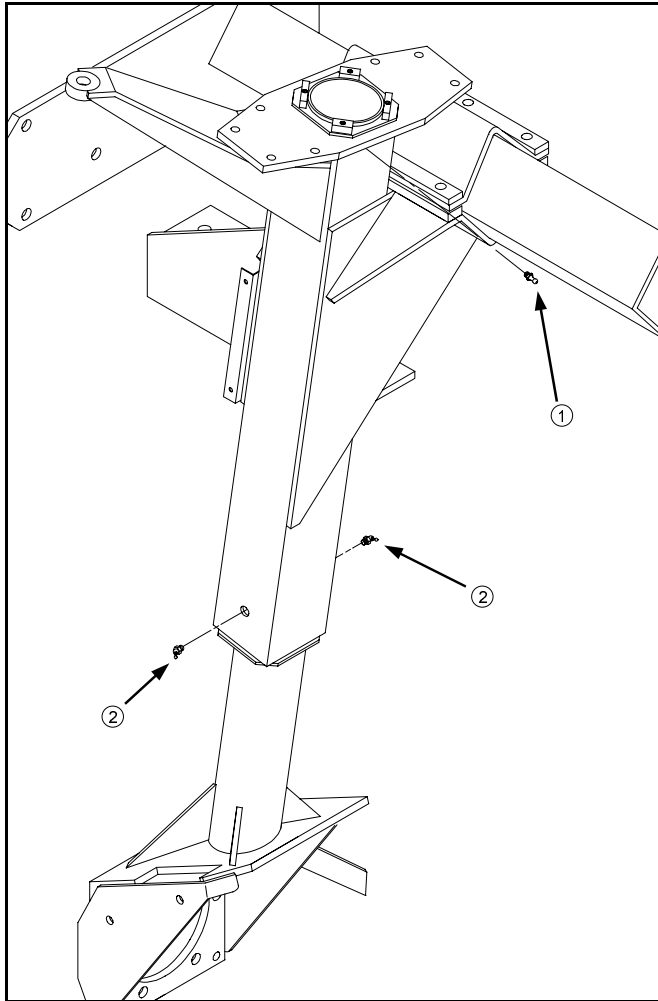

FIG 8.33
Hagie 2100 leg assemblies are constructed with upper and lower nylon bearings for suspension telescoping between the inner and outer leg weldments. These bearings must be lubricated to avoid bearing failure and ensure optimal ride quality. There are grease zerks located on the sides of the leg assemblies, one for the upper bearing (fig. 8.33, item 1) and two for the lower bearing (fig. 8.33, item 2). Greasing all bearings on all four legs daily is very important.